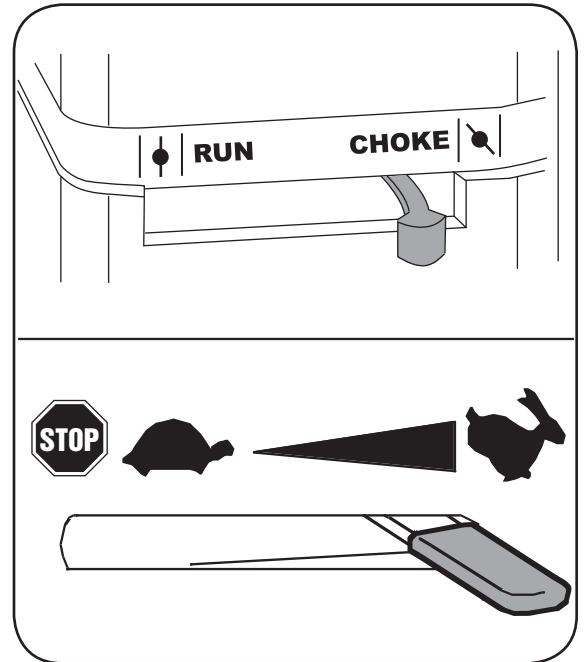

Figure 5
3. Move choke control lever to CHOKE position. See Figure 5.
4. Move throttle control lever to FAST (rabbit) position (Model 414) or push rocker switch to ON (Model 424). See Figure 5.